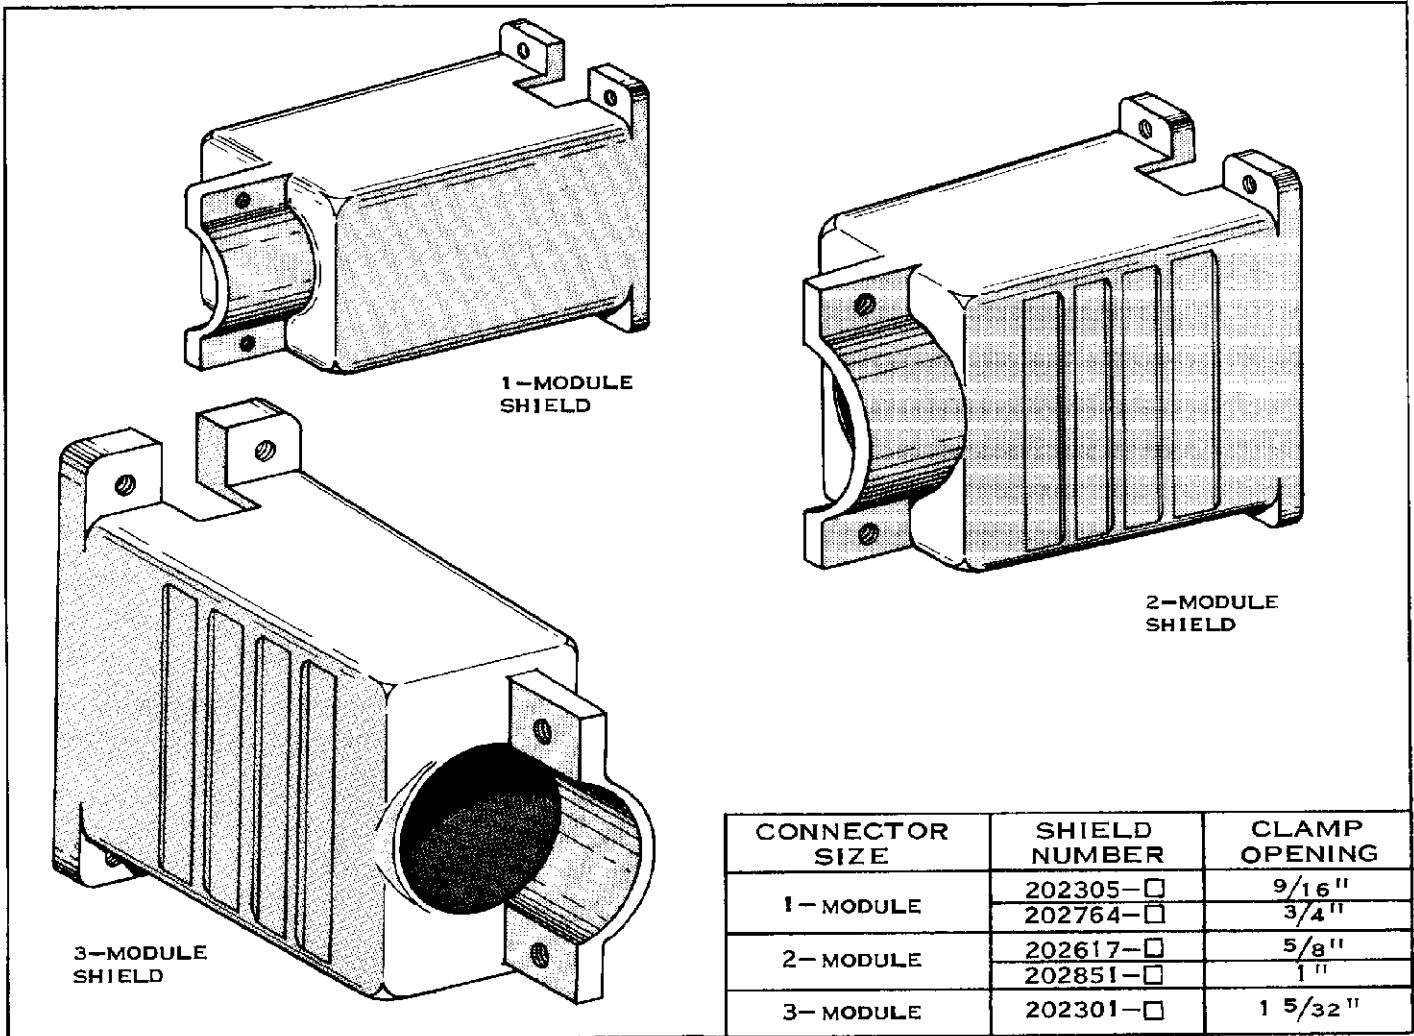
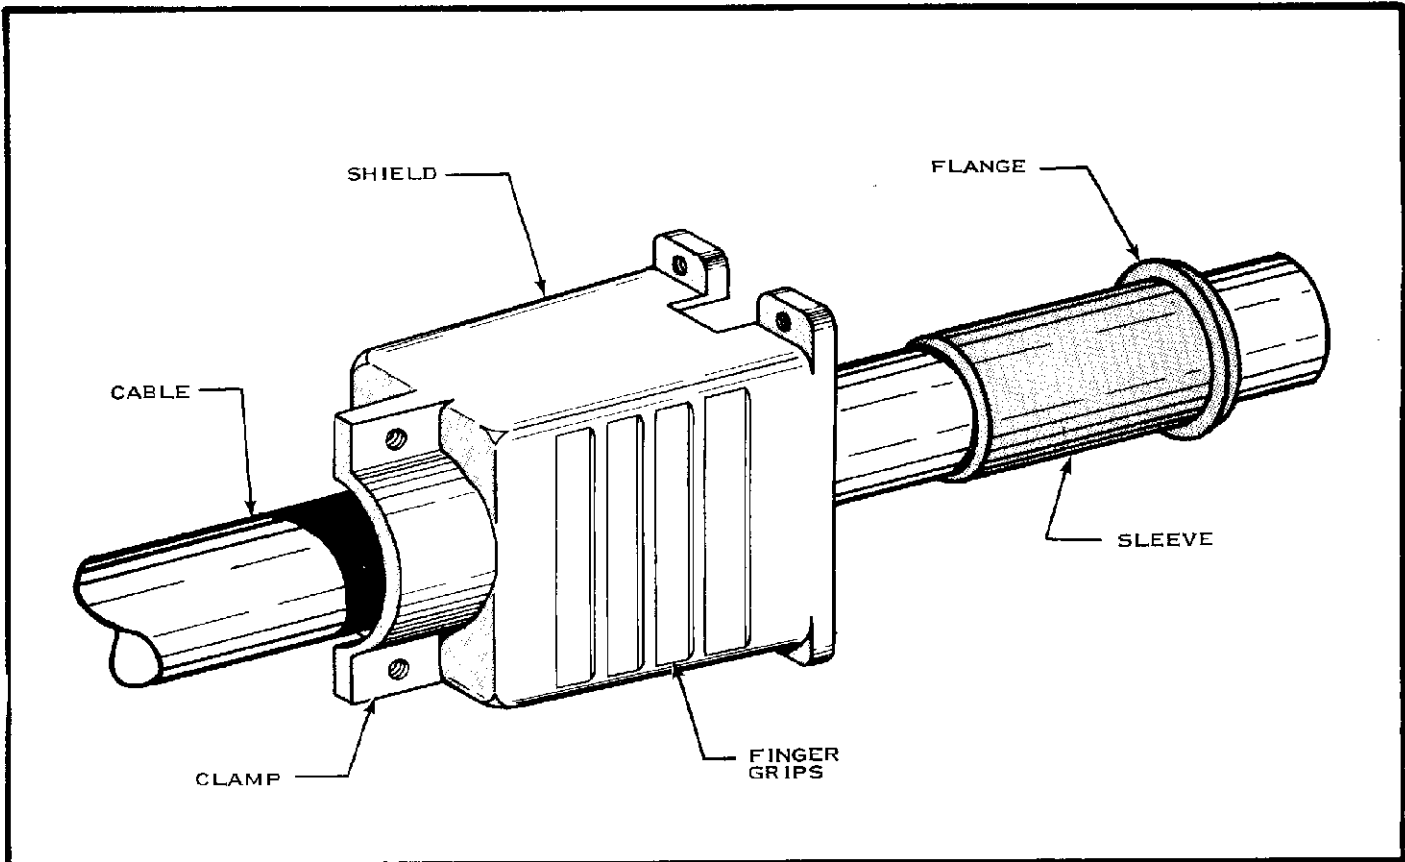

FIG. 1
FIG. 2
1. These instructions cover the Shield and Cable Clamps (Shields) shown in Figure 1. Some Shields do not include Sleeves (see Figure 2). Therefore, when assembling them, disregard the instructions concerning the Sleeve.
- (a) Slide Shield over Cable - Clamp end first. See Figure 2.
- (b) Sleeve has smooth end and flanged end. Slide Sleeve over Cable - smooth end first. See Figure 2. Slide Sleeve thru Shield until Flange butts against inside of Shield.